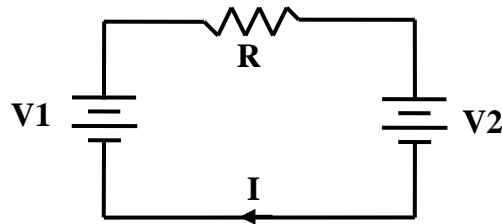

Fig. 2.37
**Illustration 1:** A simple single loop network given in fig. 2.37 is used to illustrate, how the principle of superposition can be used to obtain the current through the resistor and voltage across resistor. **Let  $V_1$  be greater than  $V_2$ .** Assume the direction of the current in clock wise direction as shown in the fig. 2.37.
**Example:** In the fig. 2.37 if  $V_1 = 12 \text{ V}$ ,  $V_2 = 6 \text{ V}$  and  $R = 2 \Omega$ . Find the current through and voltage across resistor.